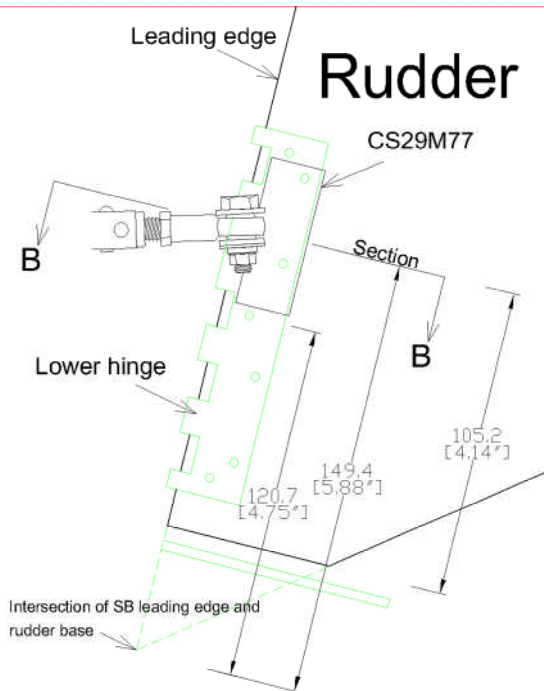

Fig 3 Position on Rudder
3.5 Rudder CS29M77 installation: A cavity is required in the leading edge of the rudder (see Photo 1 and Fig 3 & 4) to accept the CS29M77. First remove two of the pop rivets from the hinge (the second and third from the top edge). Use a sharp drill to remove the head and take great care not to damage the rudder skin behind the hinge. The position of the CS29M77 is fixed by the jig as shown in the photo 2 and Fig 5. Check that the 2.5 in. dimension from the hinge centre line is correct. In this position the left hand flange of the CS29M77 should be against the port rudder skin.